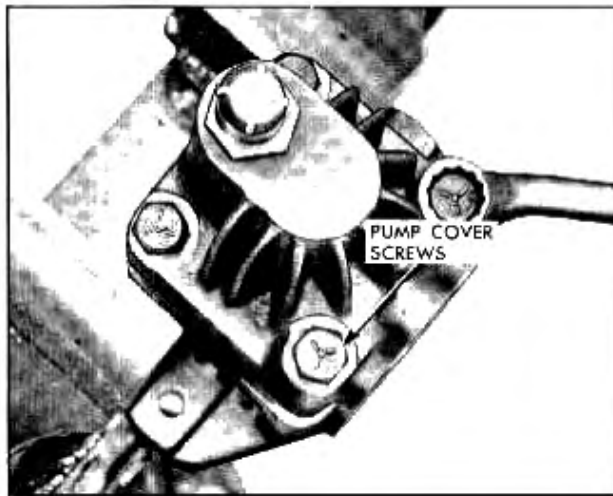

Fig. 9-71 Removing Pump Cover Screws
6. Remove four pump cover to pump body attaching screws (Fig. 9-71). **NOTE:** Do not clamp on front hub of pump as this may damage the bearing housed therein.